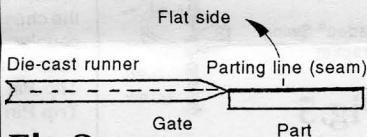

Fig.2
4. To assemble the coupler brackets, remove the die-cast components from the runners. Note: always bend or break towards the flat or smooth side, opposite the stepped side of the die-cast gate (the gate is where the part and runner connect) which will result in a cleaner break. **See Fig.2.**